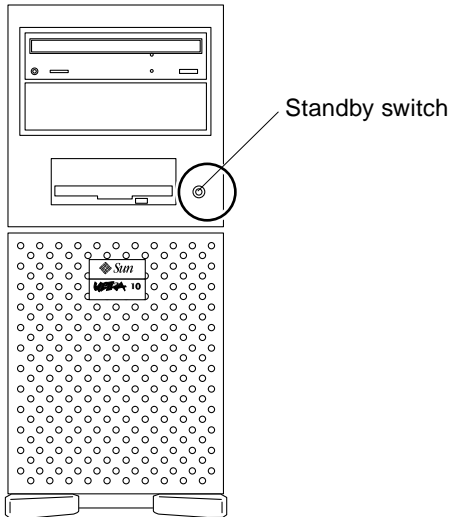
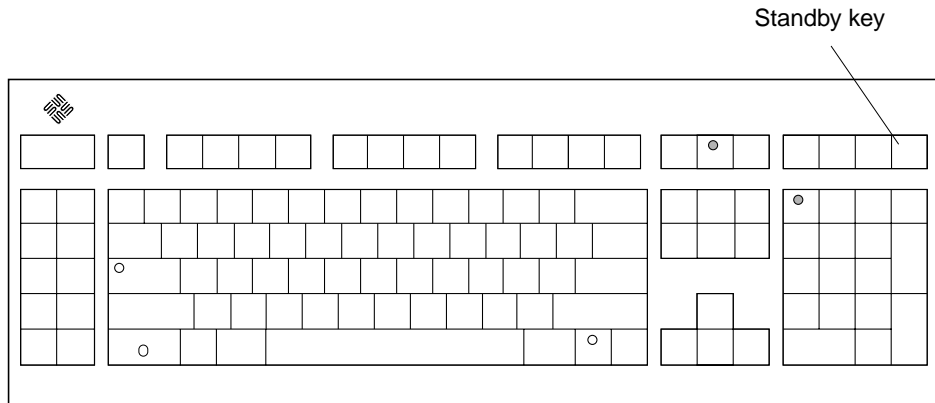
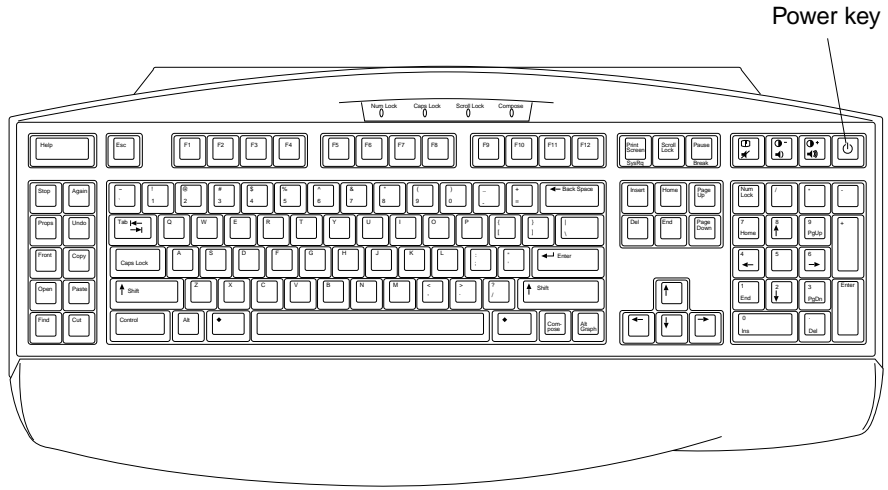

FIGURE 5-2 System Standby Switch
FIGURE 5-3 Sun Type-5 Keyboard
FIGURE 5-4 Sun I/O Type-6 Keyboard
2. **Press the system standby switch (FIGURE 5-2) or press the Sun Type-5 keyboard Standby key (FIGURE 5-3) or the Sun I/O Type-6 keyboard Power key (FIGURE 5-4).**